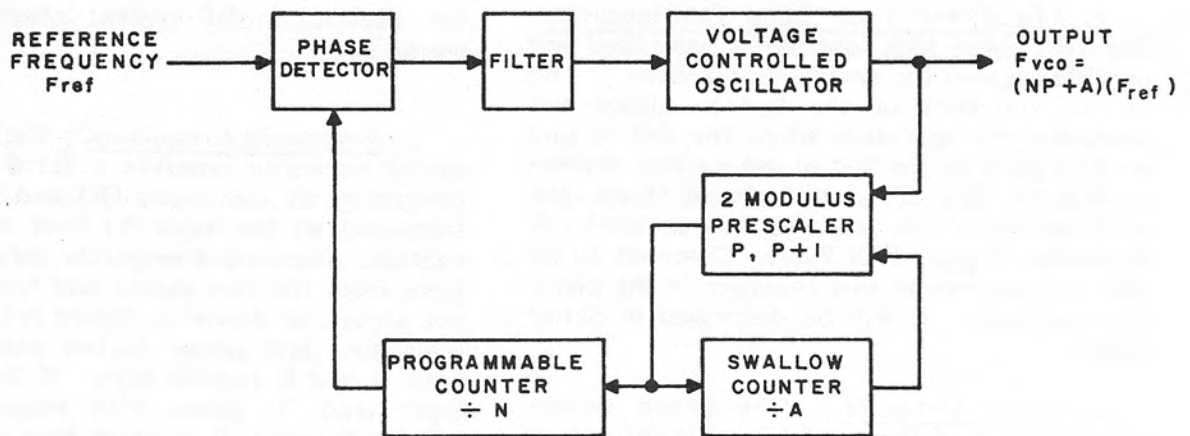

Figure 3-10. Two-Modulus Prescaling in the Phase Lock Loop
d. Phase Lock Loop Prescaling Technique. A variation of the basic phase lock loop, shown in figure 3-10, is utilized in the 1st and 2nd lo synthesizers. The divider portion consists of two modulus prescaler and two programmable counters. The two-modulus (divider) prescaler accepts the output from the vco and divides it by one of two numbers (P or P+1). The prescaler in the 1st lo is a divide-by-50/51 counter and the 2nd lo prescaler is a divide-by-100/101 counter. The swallow counter controls the number of times the prescaler divides by P+1. The programmable counter counts the number of pulses from the prescaler. Totally, these three components provide for coarse (N) and fine (A) tuning of the vco.